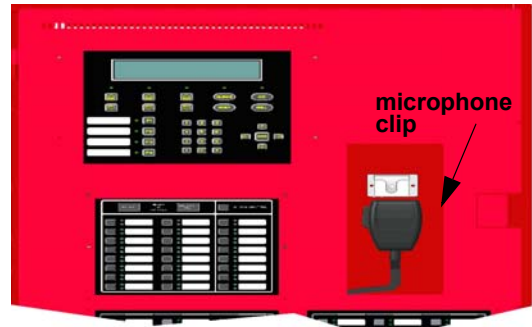

Figure 6 Microphone with the Microphone Clip
- Clip the microphone into the microphone clip. See Figure 6.